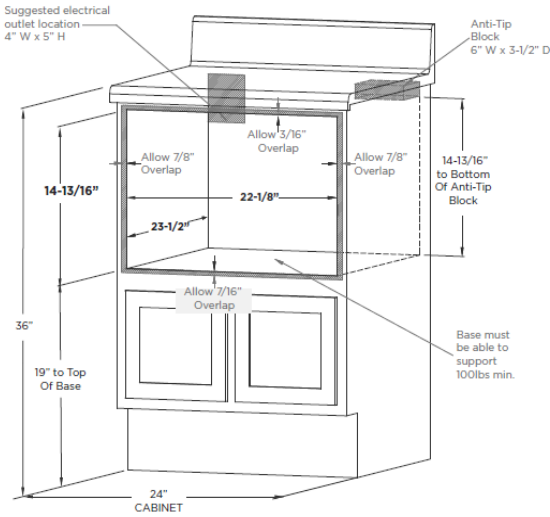
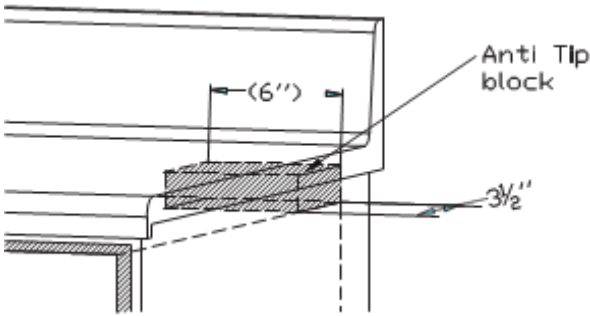

Figure 1
Figure 3
- Dimensions that are shown in Figure 1 must be used. Given dimensions provide minimum clearance. Locate the electrical outlet in the shaded area in the upper left-hand corner of the cutout. See Figure 3.
Figures 1 and 2 contain many Microwave Drawer measurements for reference when planning the drawer's location. This Microwave Drawer can be installed below any electric or gas wall oven.
To reduce the risk of tipping the drawer, the Anti-Tip block must be properly installed and located 13-16 inches above the floor on which the Microwave Drawer will sit. The 6-inch Anti-Tip block must be provided by the installer. See Figures 1 and 3. The Anti-Tip block prevents serious injury that might result from spilled hot liquids.